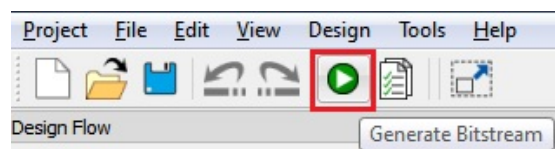

Figure 57 • Generate Bitstream
- Click **Generate Bitstream** as shown in Figure 57 to complete place and route, verify timing, and generate the programming file.